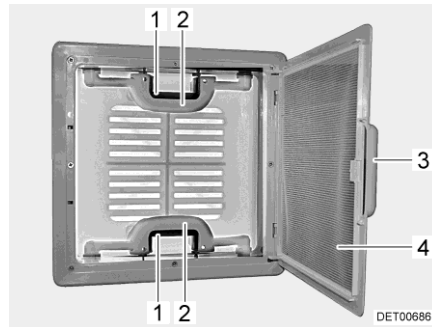

Fig. 31 Skylight with snap latch
- Pull on the handle (Fig. 31,3).
- Fold insect screen (Fig. 31,4) downward.
- Push the snap latch (Fig. 31,1) towards the inside of the skylight. At the same time use the handle (Fig. 31,2) to press the skylight upwards.
- Swing insect screen (Fig. 31,4) upwards until it latches in place.
- Using both handles (Fig. 31,2), pull down the skylight with force until the two snap latches (Fig. 31,1) lock into place.